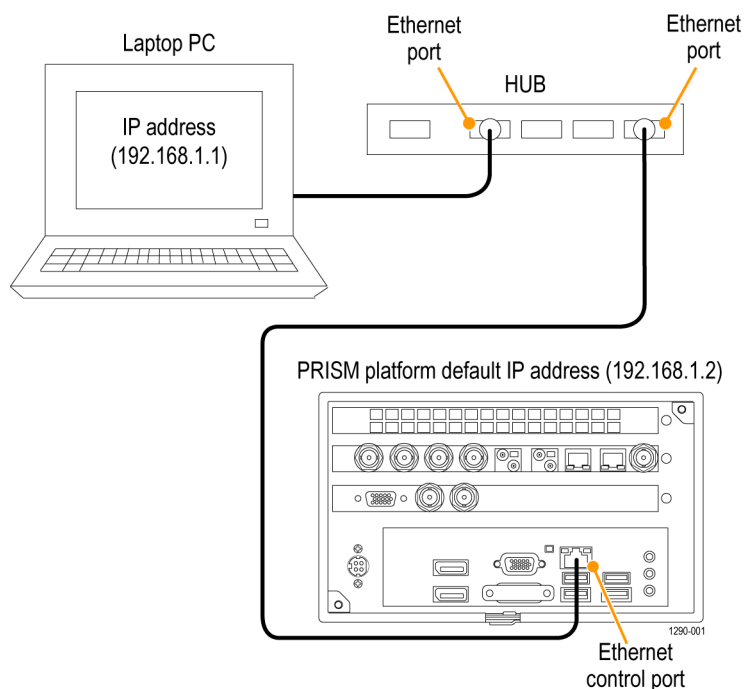

Figure 9: Connecting the instrument to a PC
1. Connect the instrument directly to a PC with an Ethernet cable. The instrument has an auto-crossover feature. You can also use a HUB. (See Figure 9.)